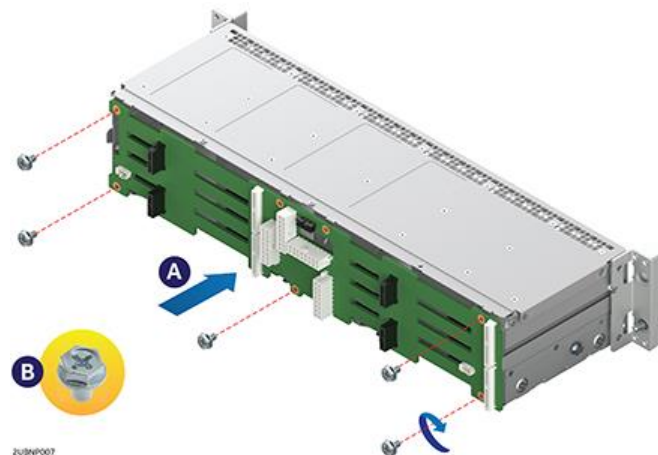

Figure 50. Installing the 12 x 3.5" backplane board to the drive cage
1. Attach the backplane board to the drive cage (A) and fix the backplane board with the screws (B) as pictured in Figure 50.